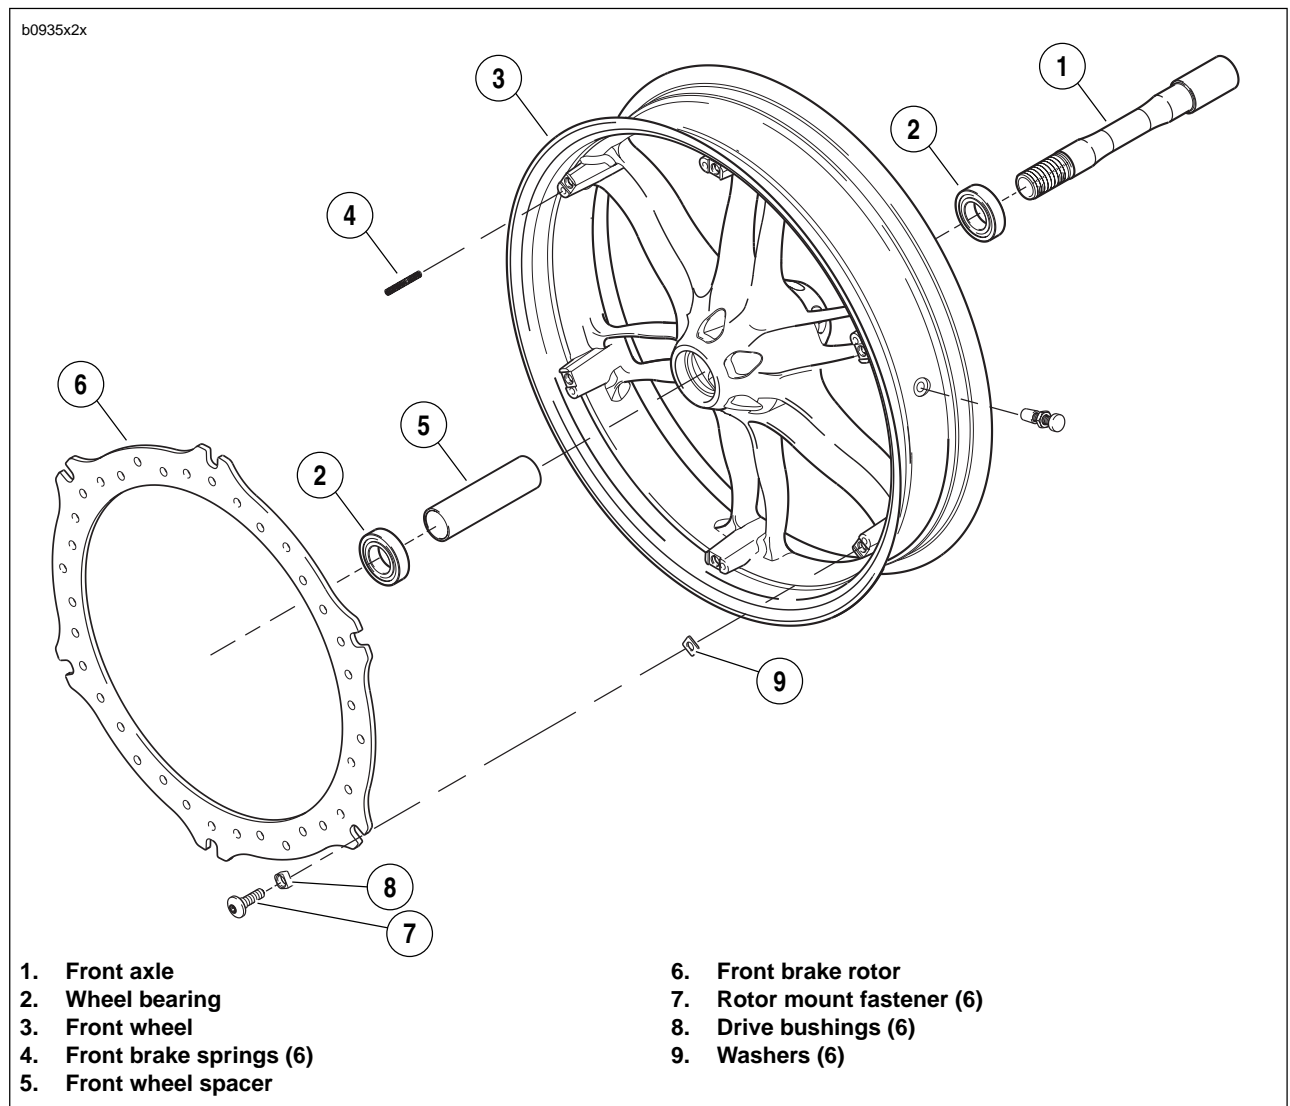

Figure 2-17. Front Wheel Assembly
1. See Figure 2-17. Remove and discard rotor mounting fasteners (7).
2. Remove and inspect brake rotor (6) for wear and warping. See 1.9 TIRES AND WHEELS.
3. Remove drive bushings (8) and discard.
4. Remove washers (9) and discard.
5. Remove front brake springs (4) and discard.
1. See Figure 2-17. Install spacer (5).
2. Install **new** wheel bearings (2) into hub using suitable driver. Press on outer race only.
1. See Figure 2-17. Install **new** spring (4).
2. Install **new** washers (9).
3. Install **new** drive bushings (8) into rotor.